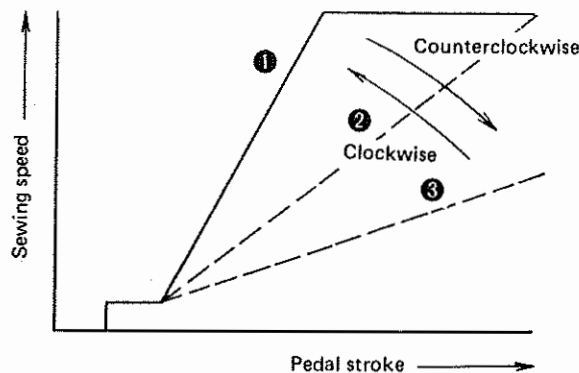

Fig. 3-11
(2) Maximum speed limitation knob
This knob has the same function as the conventional maximum speed control knob. Turn the knob clockwise to increase the speed, or turn it counterclockwise to decrease the speed. The adjustable range is 200 to 4000spm. This knob is different from the switch described in ❶ above in that it controls speed by reducing acceleration as illustrated in Fig. 3-11. As the knob is turned counterclockwise, the acceleration reduces in the order of ❶, ❷ and ❸, and the maximum speed reduces accordingly. Although the operator has to fully depress the pedal to reach a preset speed, he can adjust more easily the speed before reaching that preset speed since the acceleration is controlled. By properly adjusting both ❶ and ❷, an ideal acceleration can be obtained for each operator or operation.